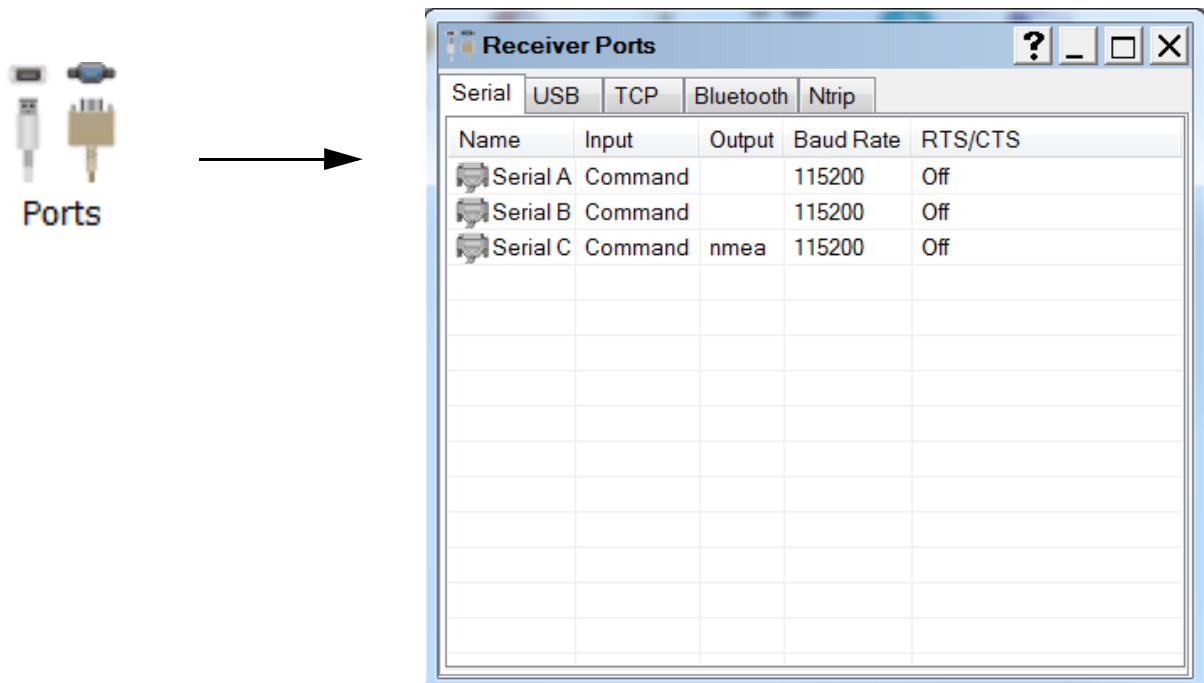

Figure 32: TRU – Receiver Ports
2. Click **Ports**. The **Receiver Ports** screen appears (Figure 32 on page 30).